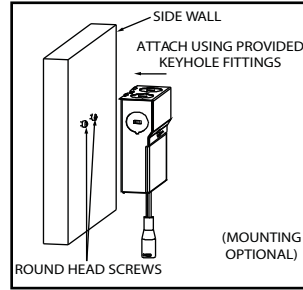

Figure 4 / Figura 4 / Schéma 4
4. Place remote driver box thru the cut-out hole. If remote driver box need to be attached, use provided keyhole fittings on the back of the box to hang it using round head screw (not included). (Figure 4)
2. Locate the four (4) T-bar slots near the end of the bar hanger. Bend tabs out, slip the hanger bar over the T-bar and press the tabs back against T-bar to hold it in place (See Figure 4).
Figure 4: connect the electrical supply connection in the detachable junction box. Secure the junction box by placing it through the keyhole slot and attach luminaire using the connector.
Figure 4 : Faire la connexion d'alimentation électrique dans la boîte de jonction amovible. Fixer le boîtier de raccordement en le faisant passer par le trou piriforme et fixer le câble du luminaire à l'aide de l'écrou du connecteur.